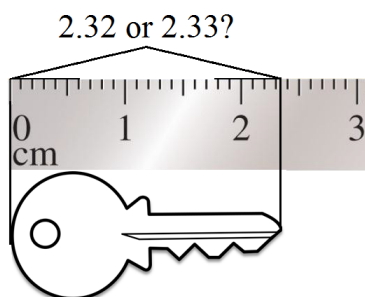

Figure 1- Uncertainty in measuring the length of a key
Every measurement involves some measurement uncertainty. There are two sources of uncertainty in any measurements. The main source of uncertainty in any measurement is the measuring device that was used. The last number of a reading (not for digital readings) has to be estimated, as it is always uncertain. For example, if we were to measure the length of a key on a ruler at the point shown in Fig. 1, we could say it is between 2.3 cm 2.4 cm with certainty. However, we could estimate it to be 2.32 cm or 2.33 cm with some degree of uncertainty. We know for sure that the length is 2.3, but the last digit has to be estimated. The numbers recorded in a measurement are usually all the certain numbers plus the first uncertain number. These are called significant figures. Thus the number of significant figures in a measurement is dependent on the inherent uncertainty of the measuring device. We would thus say that the length measured on the ruler is 2.35 ± 0.05 cm, where 0.05 cm is the uncertainty in the measurement. The uncertainties for the typical instruments that we use in chemistry are shown in the Table 1.
2. Precision: Precision is a measure of reproducibility of a measurement, or how closely individual measurements agree with one another. This is like shooting arrows on a target and seeing how closely grouped your shots were to one another, regardless of how far you missed the center of target. Typically, when we make a series of several measurements on the same sample or replicate samples, we do not get exactly the same value for each measurement. There will be a dispersion or spread of the measured values. The smaller the spread of values, the more precise will be the average (or mean) value of the measurements. If the accepted value **is not known** (as in the case of present experiment), then we can only evaluate the precision of our measurements by first calculating the mean or average value. Then we can determine the spread or dispersion of measurements by calculating the deviations. Deviation is a measure of the spread of individual values from the mean value. The deviations in results from the average value indicate the precision of that measurement. For example, if we measure the length of the key in figure 1, it is likely to give 3 different lengths (more or less close to each other). The precision (or reproducibility) of the 3 lengths can be expressed as percent deviation.